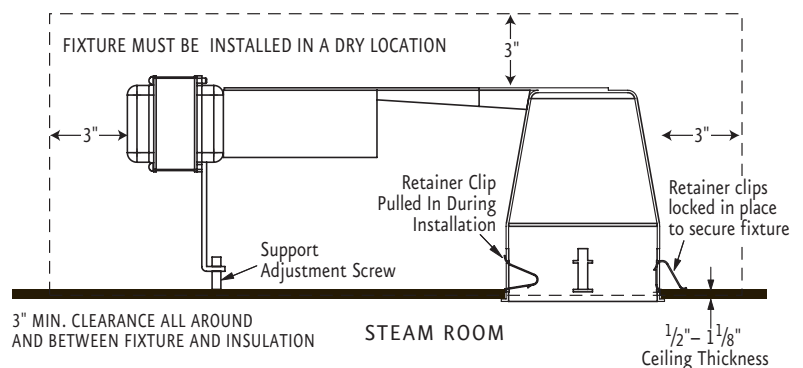
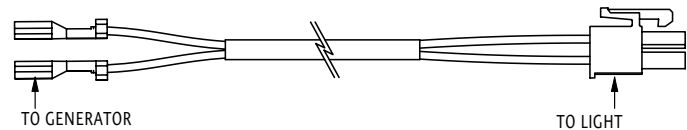

Figure 1
Figure 2
IMPORTANT NOTE: The quick connect tabs should be on the generator side, the Molex connector should be routed to the light, see figure 2.
10. With the clips folded into the fixture as shown in figure 1 insert the wired housing into the ceiling junction box first as shown in figure 2.